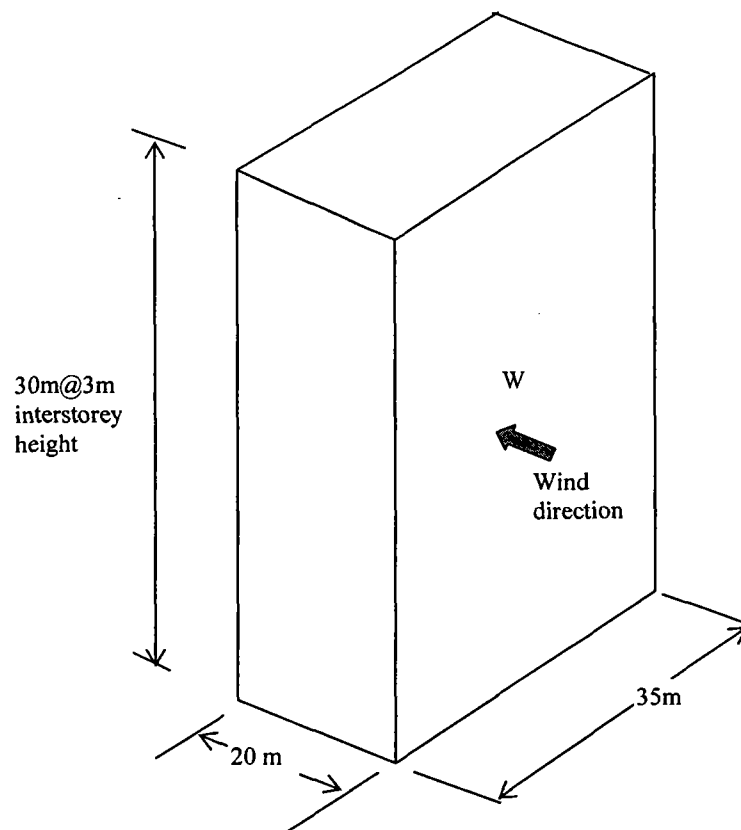

Figure 4 / Rajah 4
- (b) A reinforced concrete building will be built at Malacca (Zone II) in the terrain category 2 with the basic wind speed of 32.5 m/s^2 as shown in Figure 4. Calculate the value of design wind pressure on the W(windward) surface. Design data can be extracted from MS1553 (2002).